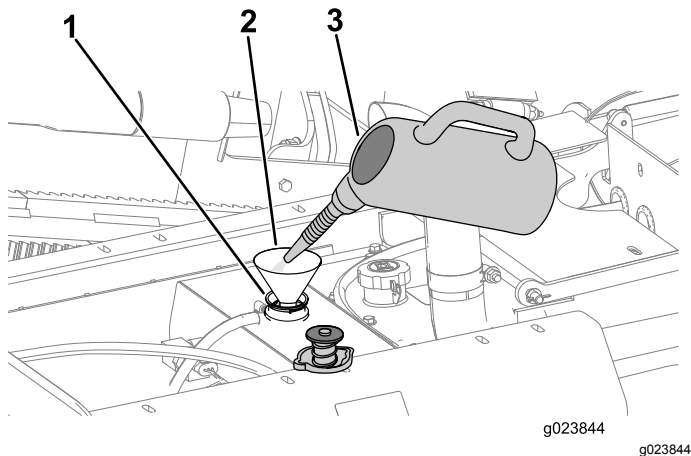

Figure 112
- B. Add a cooling system cleaning solution to the radiator through the filler neck (Figure 112).